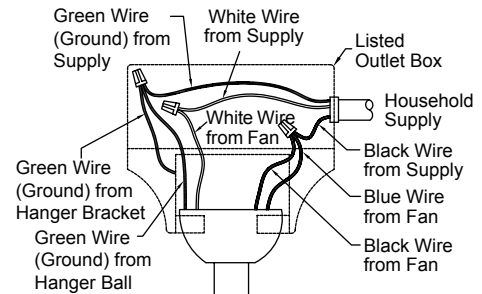

Figure 3
3. After connections have been made, turn leads upward and carefully push leads into the outlet box, with the white and green leads to one side of the box and the black leads toward the other side. (Figure 3)